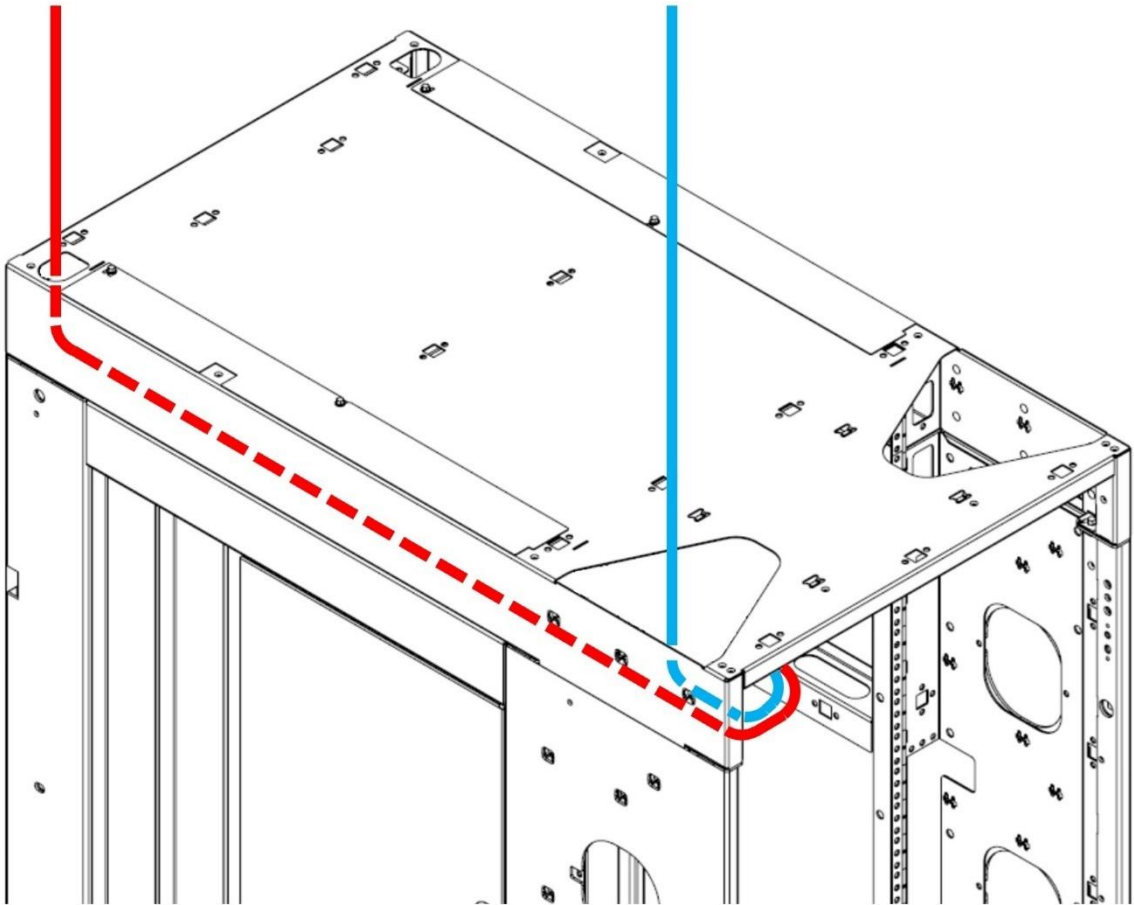

Figure 54: External Ethernet Cable Routing
If a Hardware Management Console (HMC) is ordered, the customer must supply the necessary Ethernet cables to connect the remote HMC to the IBM Z system's Support Element (SE). These cables are routed either through the top or bottom of the system depending on the frame configuration. If entering through the top, the cables shall enter through the D-holes at the front of the frame (red line in Fig 54) or through the large cutouts at the rear of the frame (blue line in Fig 54).